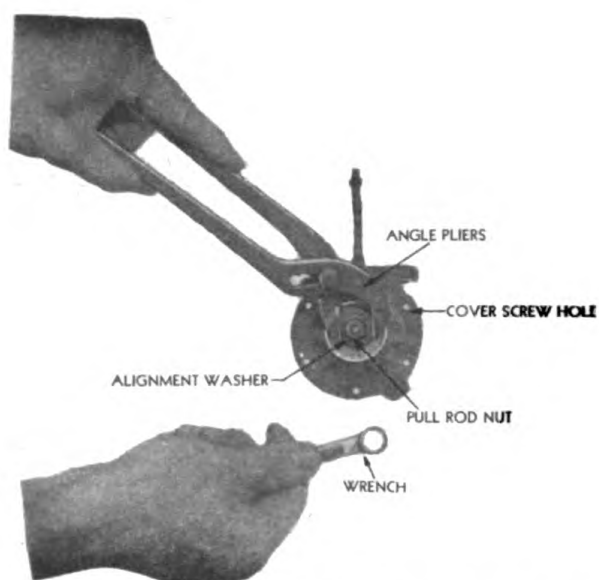

Figure 273. Diaphragm Assembly (b).
6. Place hexagon shaped diaphragm alignment washer over end of pull rod. Assemble lockwasher and pull rod nut. Tighten the nut securely. See Figure 273.